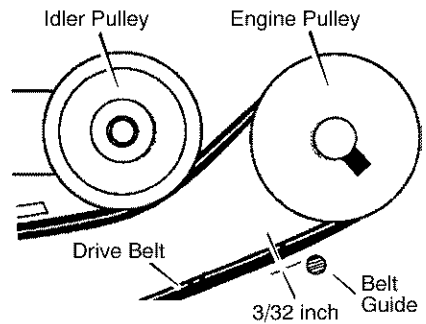

Figure 12
8. Set the belt guide to $3/32"$ clearance as shown in Figure 12.